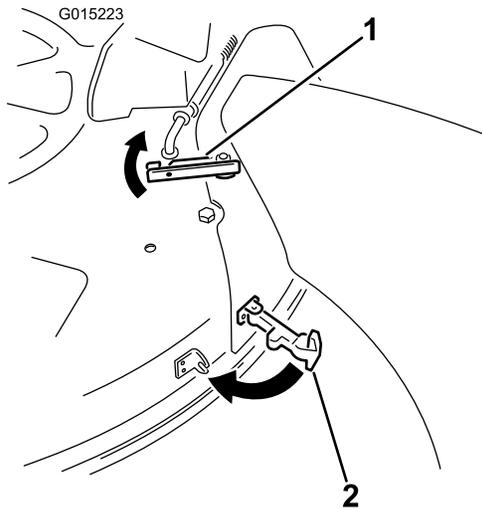

Figure 10
- On the top of the chute, engage the upper latch around pivot rod of the deflector assembly as shown in Figure 10.
- Secure the chute to the deck. Hook the flexible latch on the chute to the retaining clasp welded on the mower deck to the rear of the opening (Figure 10).